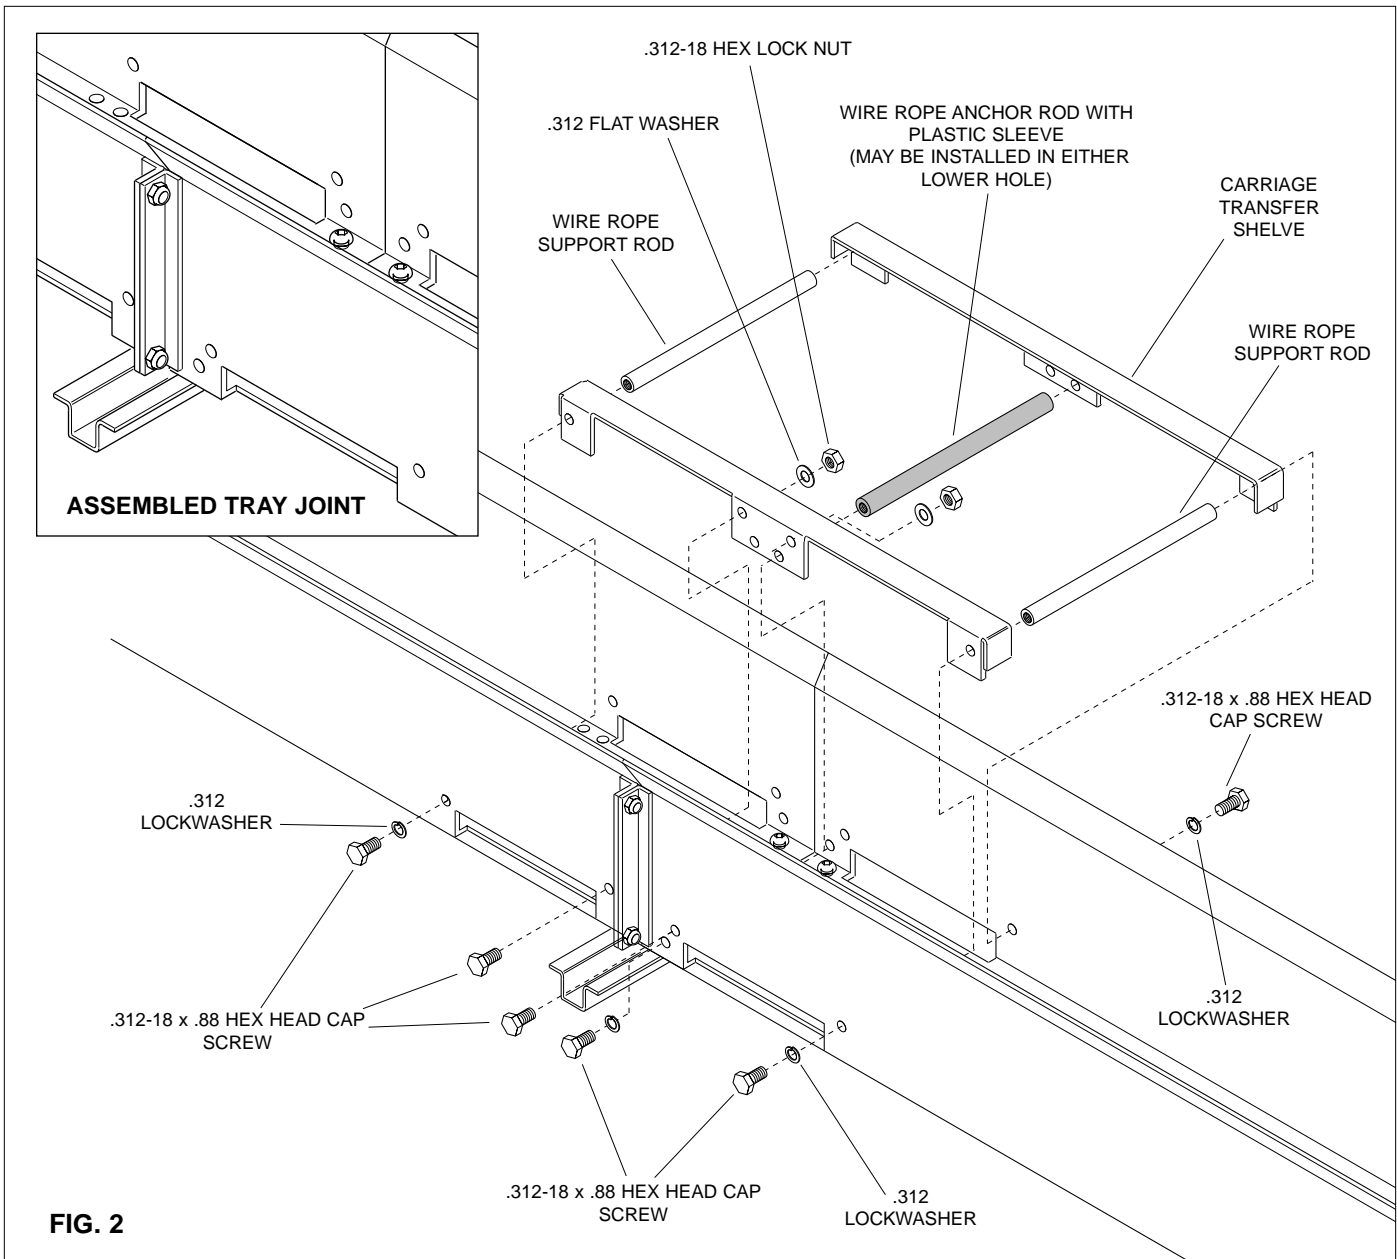

FIG. 2
STEP 3: Install carriage transfer shelves, wire rope support rods and wire rope anchor rod with plastic sleeve at cable/hose access tray joint. (See Fig 2). Be sure there is a **flat washer** between lock nut and inside of transfer shelf and a **lock-washer** on the .312-18 x .88 cap screws that screw into the rods. **DO NOT** fully tighten screws until tray is assembled and aligned.